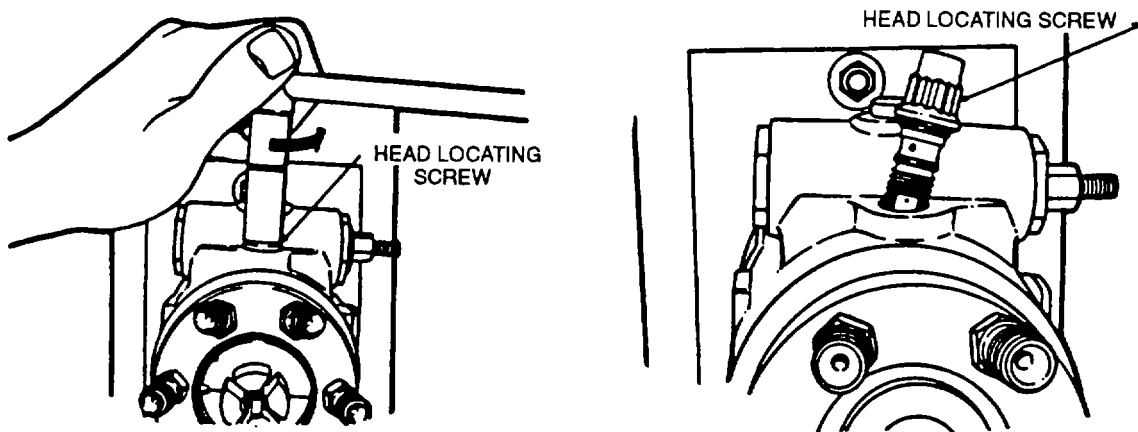

FIGURE 3-77. Removing Head Locating Screw
- ad. Remove head locating screw (54, FIGURE 3-64) and two preformed packings (55), refer to FIGURE 3-77.